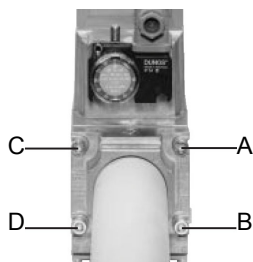
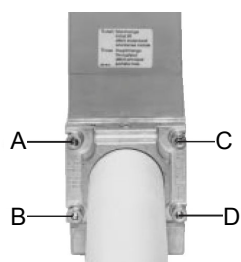

Fig. 6
Fig. 7
1. Loosen screws A and B **do not** unscrew (Fig. 6 - Fig. 7).
2. unscrew screws C and D (Fig. 6 - Fig. 7).
3. Remove MultiBloc between the threaded flanges (Fig. 7).